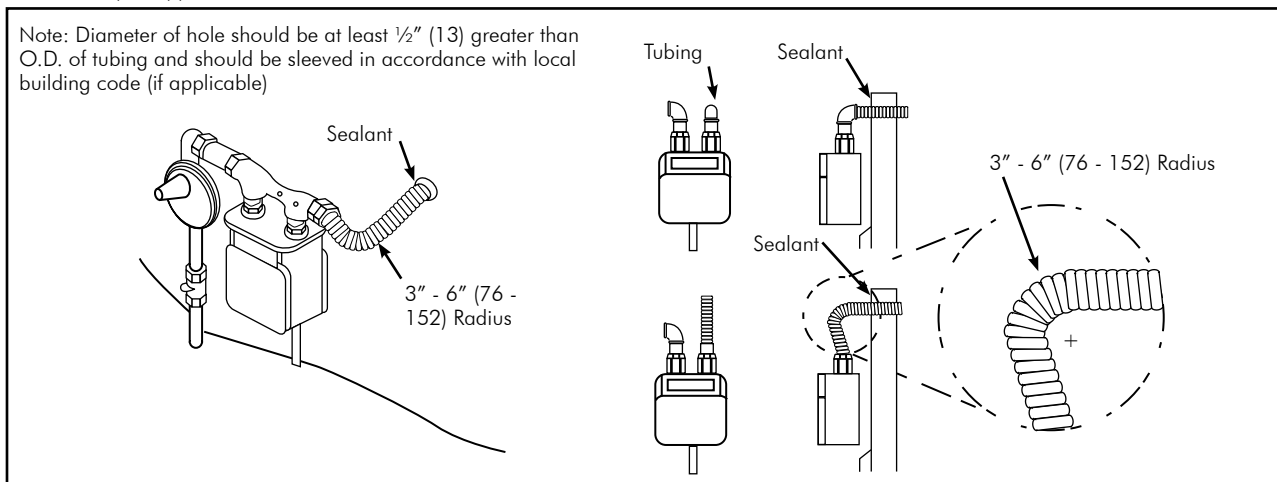

FIG. 4-19 Bracket Supported Meter
- Meters which are independently supported with a bracket can be directly connected outdoors with Diamondback as shown in **FIG 4-19**. If practical, direct connections shall include a 3" (76) to 6" (152) loop of tubing to accommodate differential settling and meter movement.